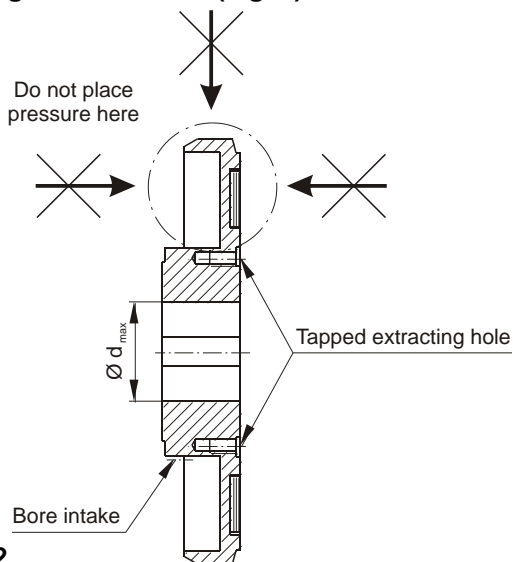

Fig. 2
## Boring the Rotor Hub (Fig. 2)
The rotor (3) must not be bent during boring. Do not place pressure on the outer, thin-walled rotor area, see Fig. 2.
## Rotor De-installation (Fig. 2 / Page 6)